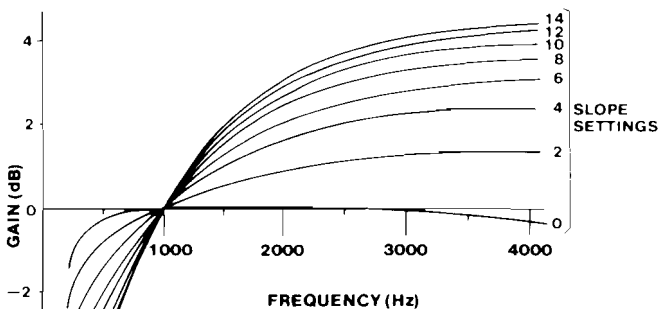
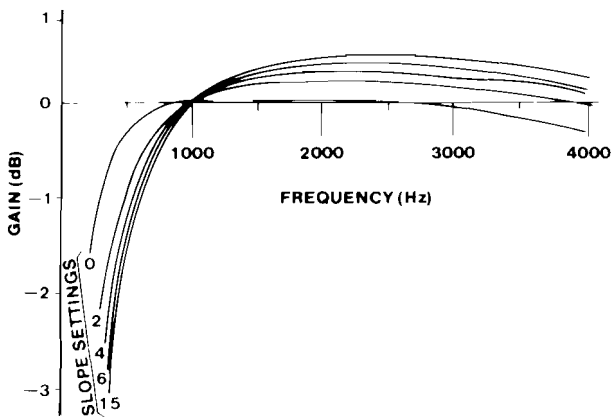

figure 5. Typical response curves for receive and transmit equalizers in slope mode, nonloaded cable
figure 6. Typical response curves for receive and transmit equalizers in slope mode, loaded cable
2.06 Figures 5 and 6 show typical response curves for the 309B-equivalent equalizer in the slope mode. Figure 5 shows the curves for non-loaded cable, while figure 6 shows the curves for loaded cable. For comparison purposes, all frequency-response curves in both figures are drawn with the same 0dB-gain reference point (1004Hz). Actually, all of these curves except those for a *SLOPE* switch setting of 0 are raised above the 0dB level at 1004Hz by as much as 11.4dB. The exact amount by which a particular curve is raised depends upon the *SLOPE* and *NL* (nonloaded/loaded) switch settings selected. These amounts are listed in table 1.